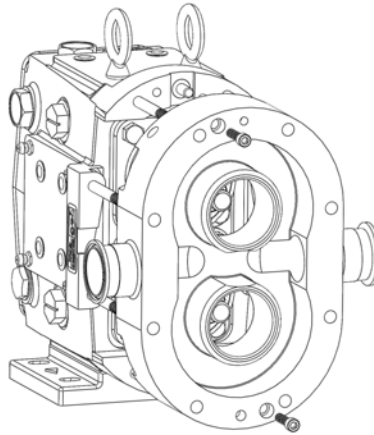

Figure 26: Removal of Pump Body
4) Remove the two body hold down bolts using the appropriate driver. Pull the pump body off by sliding it along the studs (Figure 26). If the body is stuck, use a soft mallet to tap the body. Inspect the body for excessive wear, clean, and continue on to seal maintenance. It is important to reassemble the pump body back onto the original gear case because the shafts are shimmed for that particular body.